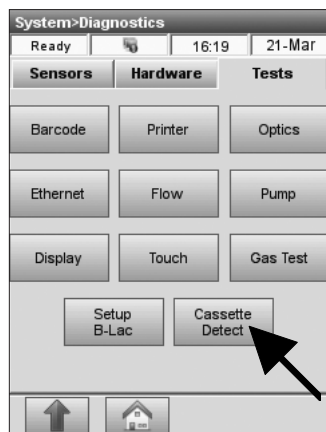

Fig. 8-41 Cassette Detect
- Press **<Cassette Detect>** to start the calibration (Fig. 8-41).